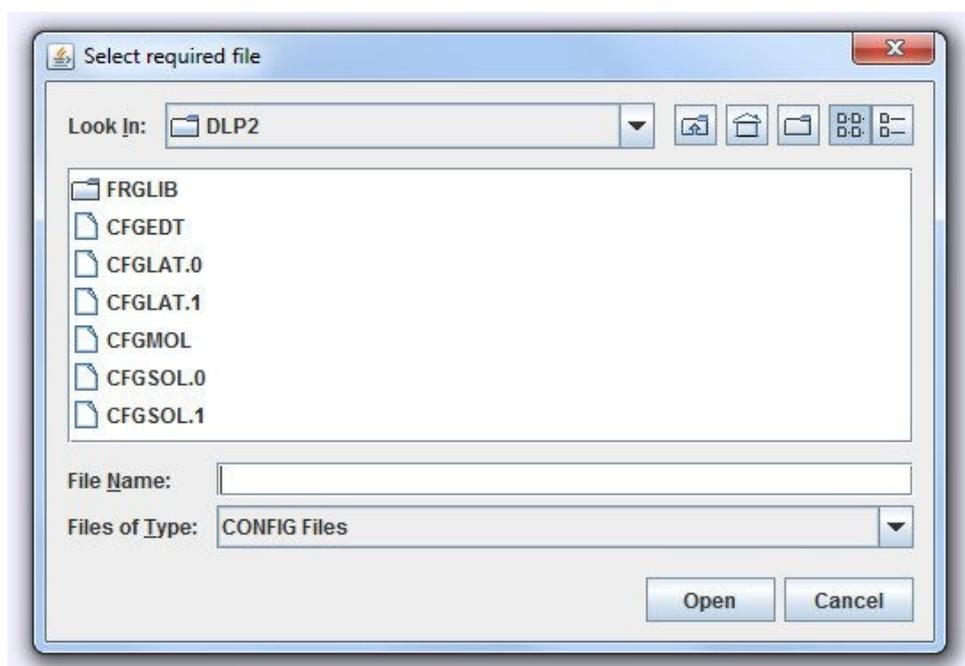

Figure 3. A Typical File Browser.
- **New** - opens a file browser (see Figure 3) for the user to select a new configuration file for viewing. This button assumes the configuration file is a DL_POLY CONFIG or REVCON file, but other formats can be processed (see later). The GUI normally performs some pre-selection of the files appearing in the browser to reduce the risk of improper selection.
Selecting one of these will cause the GUI to open a file browser (Figure 3) to enable your selection. (It is analogous to the operation of the **New** button on the Molecular Editor.) The file browser will perform some pre-filtering of file types, based on your sub-menu selection. DL_POLY CONFIG files are assumed to have the `CFG' prefix in the file name (see examples in Figure 3). Note that only one CONFIG file may be loaded at any time. If the Molecular Editor is hidden at this time, this operation will make it visible.